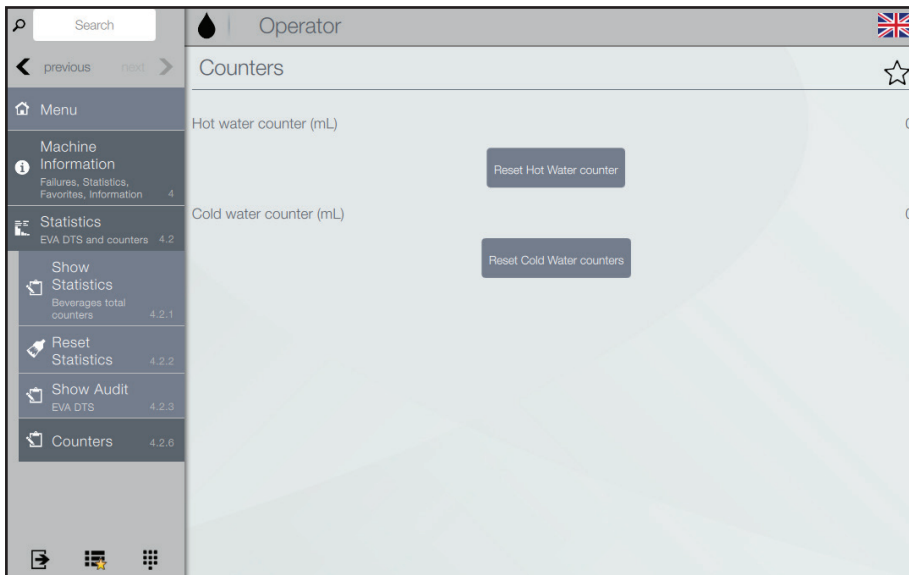

Fig. 6.14- Total Water Counter
- Tap on menu items 4 > 4.2 > 4.2.6
- Tap on “Reset Hot Water counter” to set the hot water counter to zero (fig. 6.14)